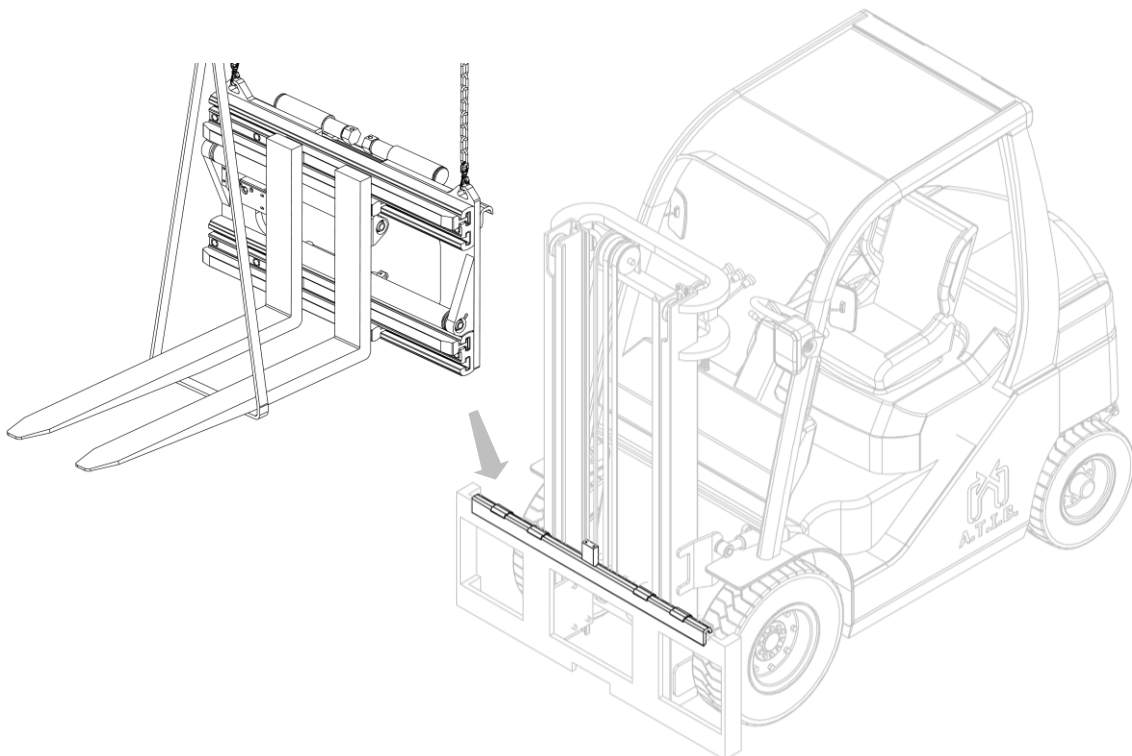

Figure 7
7. Then hook on the equipment using an overhead crane or hoist of sufficient capacity and position it onto the dual coupling, taking care to position it correctly (see *Figure 7*).